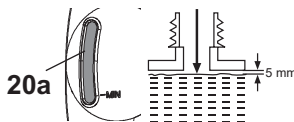

Fig. 13
- Don't fill the oil lower than the "MIN" mark on the oil level window (20a), but also do not overfill or leave approximately 5 mm of space between the top of the oil and the inside edge of the tank to allow for expansion (Fig. 13).
- Check the oil level window (20a) prior to start-up and regularly during operation. Refill oil when the oil level is close to the bottom of the oil level window (20a) (Fig. 13).
- Wipe up spilled lubricant with a soft cloth and refit the oil tank cap (20).